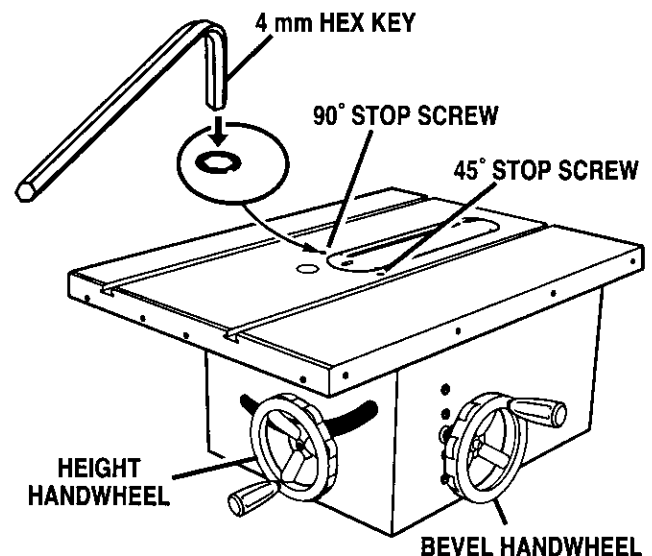

Fig. 53
- If the blade angle is wrong, adjust the 90° stop screw (left of the blade, looking from the front). See Figure 53. Start by turning the 90° stop screw three or four times with a 4 mm hex key.